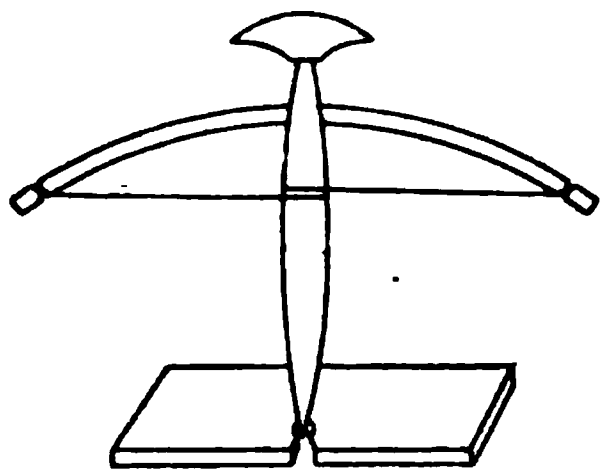
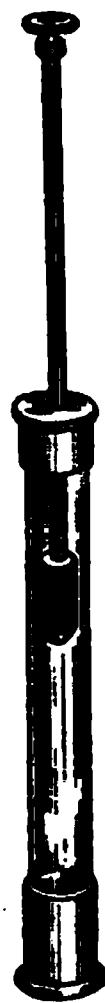

FIG. 120.—Boy-scout method of making fire by friction.
FIG. 121.—A fire syringe.
14. The turbine in the City of Tacoma Power Plant (see Fig. 120) uses a head of 415 ft. 145 cu. ft. a second pass through the turbine. Calculate the horse-power.
whether it be by *friction*, *concussion*, or *compression*. Friction *always* results in the production of heat, as when we warm our hands by rubbing them together. When friction is excessive, such as in the case of a heavy bearing not properly oiled, the bearing may get very hot. This is the cause of the "hot box" on a railway car. Friction may produce heat enough to set wood on fire. Some fires in mills are believed to be due to this cause. Every *boy scout* must learn how to produce fire by friction. (See Fig. 120.) *Concussion* may be illustrated by the heating of a piece of metal by hammering it, while the compression of a gas always makes it warmer, as those who have used a bicycle pump have observed. The production of heat by compressing a gas is illustrated by the "fire syringe" (Fig. 121). This consists of a glass tube with a tightly fitted piston. A sudden compression of the air contained may ignite a trace of carbon bisulfid vapor.